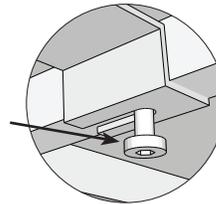

Fig 1
4. Use an Allen wrench to loosen the seat cushion bolts about 1/2" on facing sides of both chairs, as shown in figure 1.